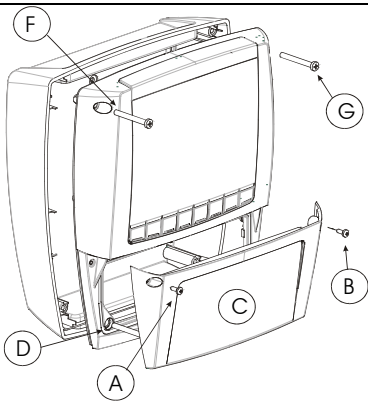

FIG. 2
8. After connecting the wires to the terminal blocks close the cover (Fig. 2, c) and fix it by the screws.
9. After connecting the wires to the terminal blocks close the cover (Fig. 2, c) and fix it by the screws.